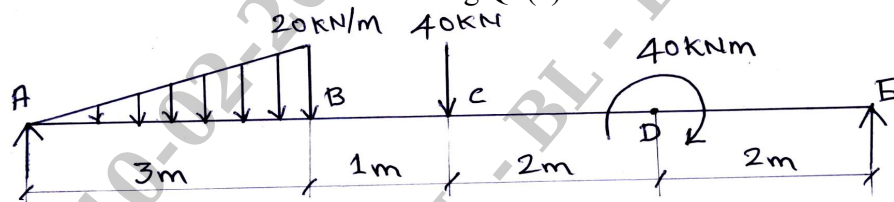

Fig.Q5(b)
- b. Draw SFD and BMD for the beam shown in Fig.Q5(b).